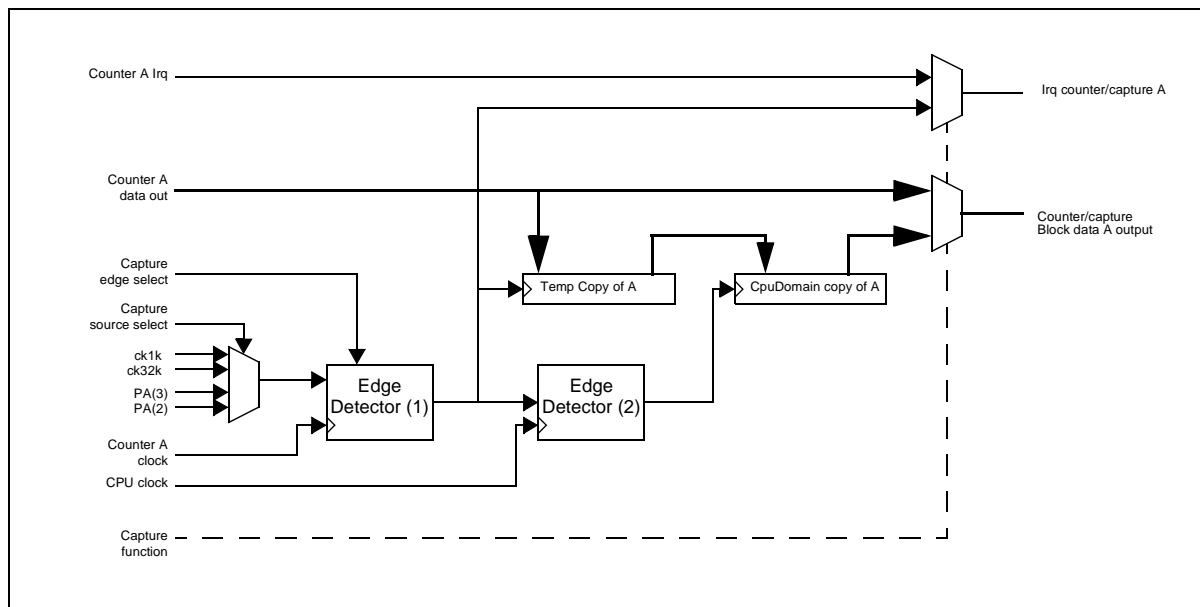

Figure 11.5: Capture Architecture (counter A)
When counters A or B are active, reads performed on their associated addresses come from the capture register. Figure 11.5 shows a representation of the capture block within the context of counter A.
- Edge detector (1)
- Edge detector (2)
Edge detector (1) generates the strobe pulse that captures the contents of the counter into the register marked Temp copy of A within Figure 11.5. This strobe signal is also used to communicate the availability of data within that register to the Edge detector (2) block which in turn generates the strobe signal that copies the data into the cpu clock domain.